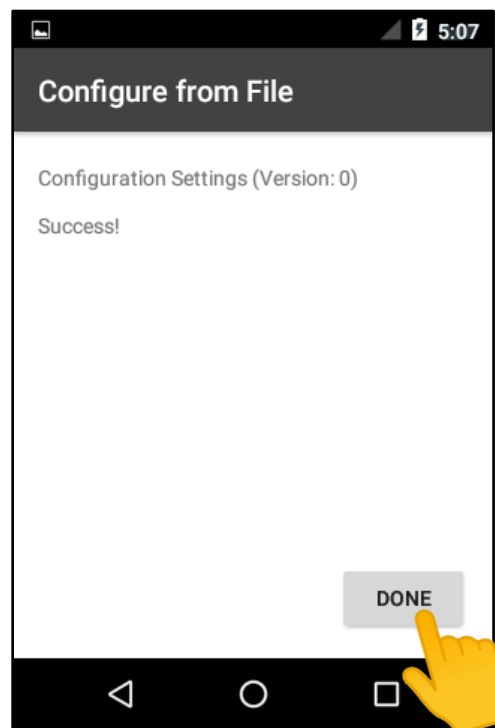

Figure 99: Tap DONE to close the process
A Configuration success message appears (see Figure 99).
18. Tap **DONE** when you have successfully configured the SHOUT sp (see **Figure 99**).